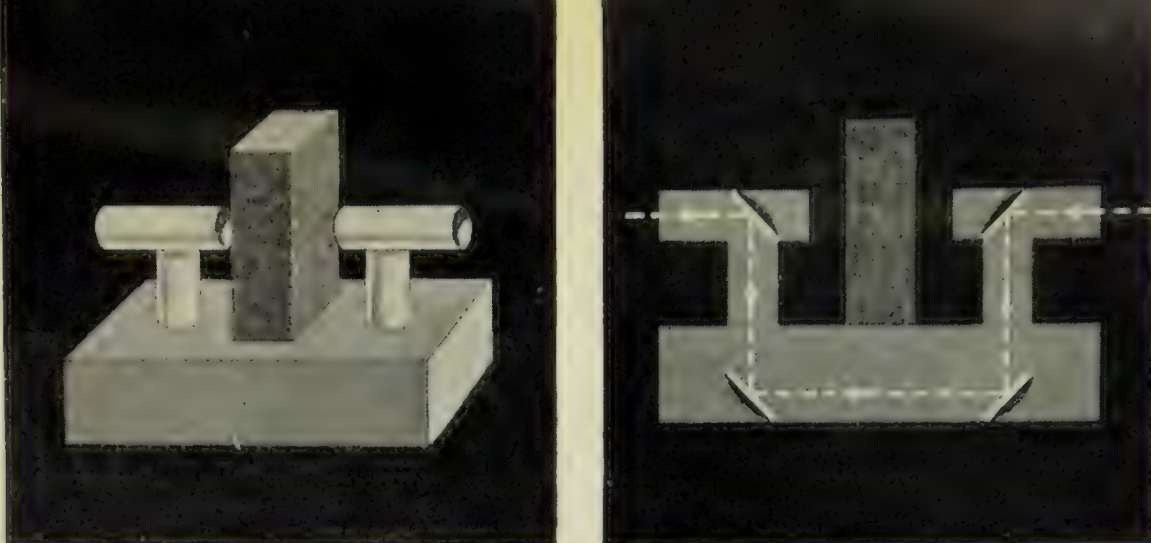

FIG. 485. Apparatus for Additional Exercise 4
4. Can one see through a brick? You can make it seem as if it is possible if you will arrange an apparatus like the one shown in Figure 485. You can make the tubes of cardboard, and you will have to bore holes in the board as shown by the dotted lines. The only difficult part of the apparatus is getting the mirrors at the right angles.